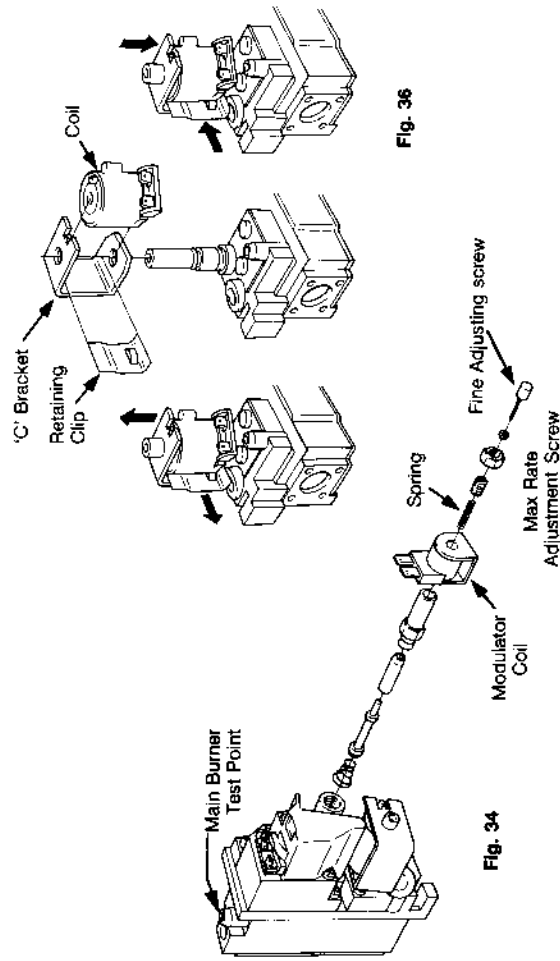

Fig. 36
- 8.12.18 Solenoid (fig 36)**
- 8.12.21** Pull off the 'C' bracket and coil assembly. see fig 36